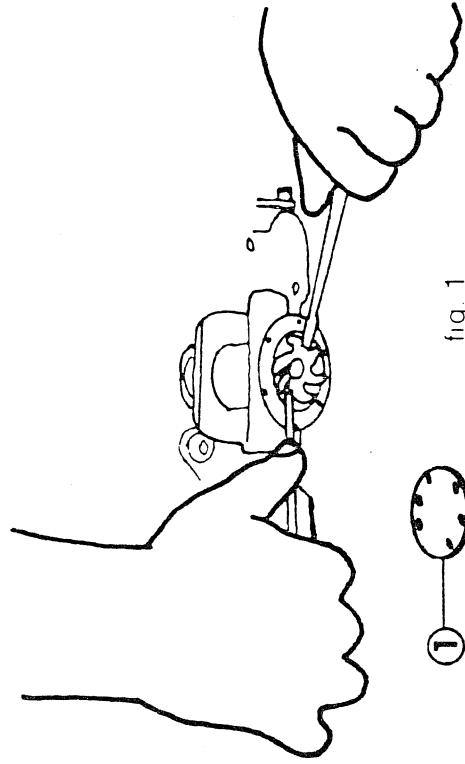

fig. 1
IMPELLERWECHSEL - Fig. 1
- For torquing order, see fig. 1